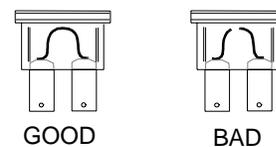

Figure 78
- Carefully pull out the appropriate fuse(s) and check for a blown fuse. Replace with the same size fuse. See Figure 78.